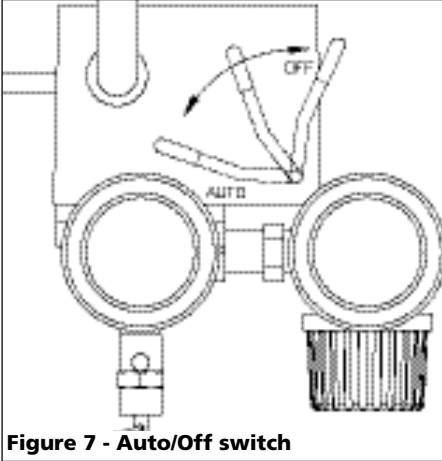

Figure 7 - Auto/Off switch
• **Pressure Switch** - Auto/Off Switch (Figure 7) - In the **AUTO** position, the compressor shuts off automatically when tank pressure reaches the maximum preset pressure. In the **OFF** position, the compressor will not operate. This switch should be in the **OFF** position when connecting or disconnecting the power cord from the electrical outlet or when changing air tools.